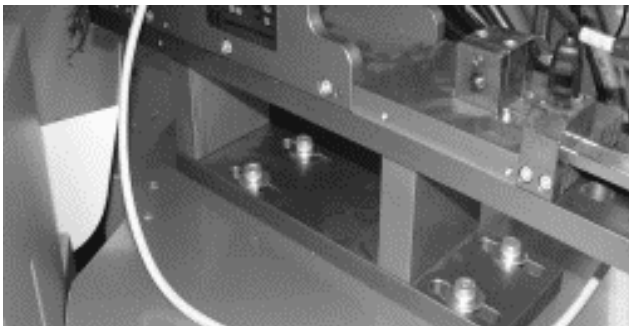

Figure 2
1. Install the base unit with the mounting screws located in the mounting slots approximately centered as shown in Figure 2.